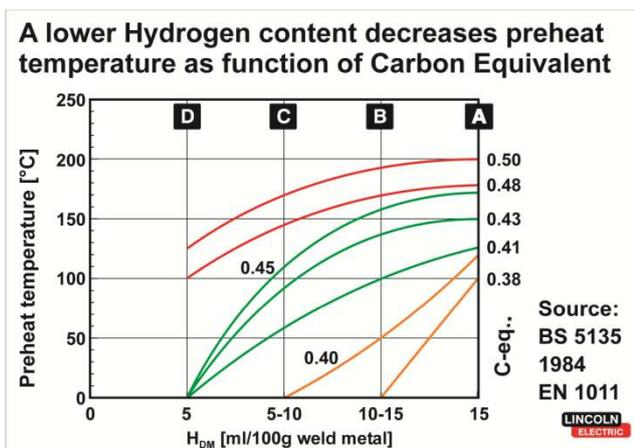

Figure 1. Preheating temperature in relation to C-eq. and diffusible hydrogen content
1.0 kJ/mm and a diffusible hydrogen content of max 5 ml/100g deposited weld metal (H_{DM}), figure 1.
In Figure 1 the relationship between C-equivalents is indicated.